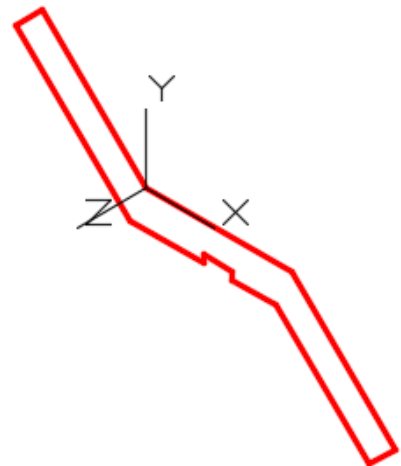

Figure Step 8
Step 8 Change the current view to SE Isometric. Your model should now appear as shown in the figure. (Figure Step 8)